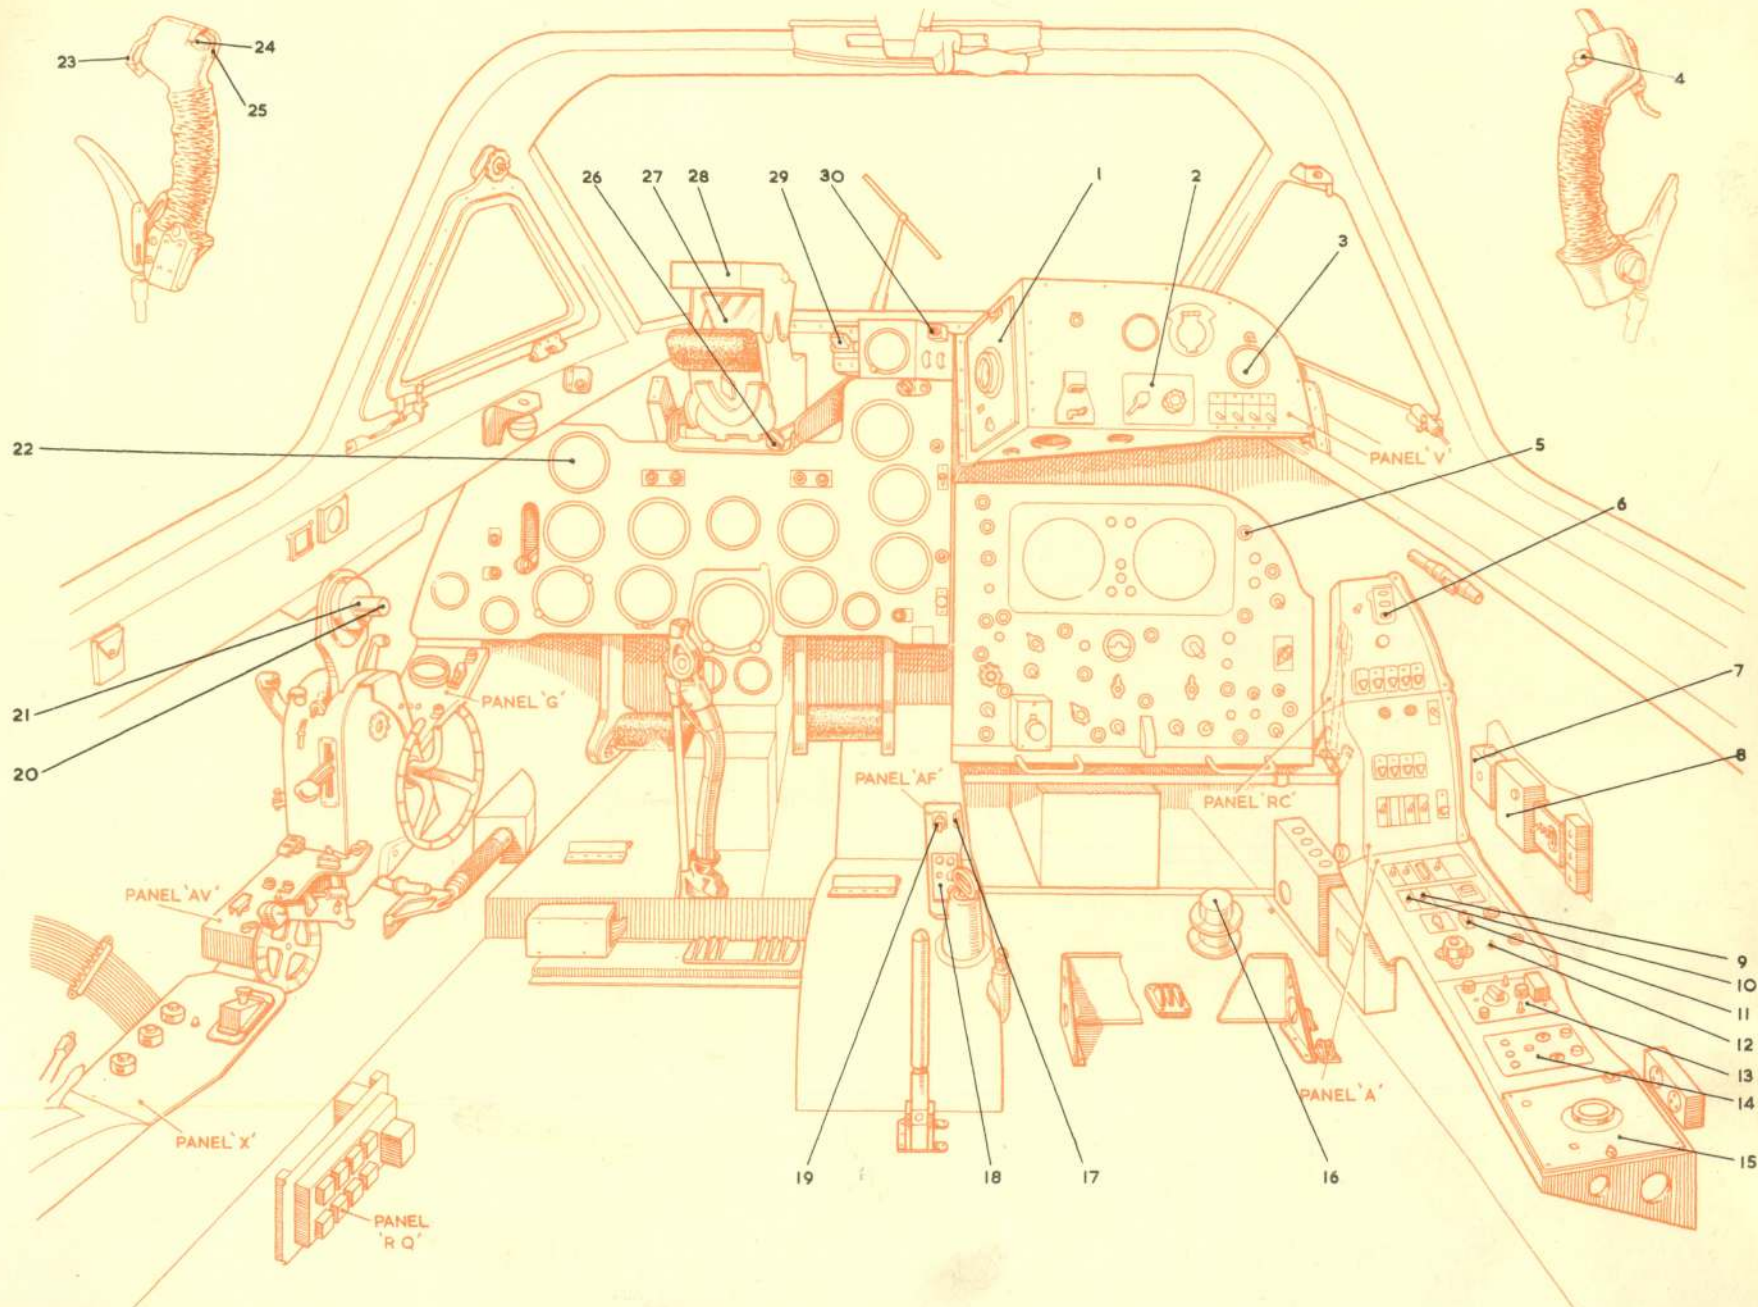

Fig.7 Operational controls and equipment (later aircraft)
**Key to Fig. 7 (Operational Controls and Equipment—Later Aircraft)**